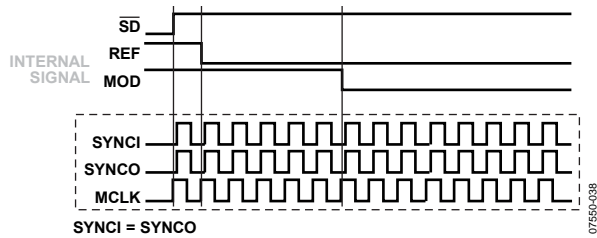

Figure 38. SYNCI = SYNCO
- SYNCI = SYNCO. SYNCO is the delayed clock signal of SYNCI, as shown in Figure 38.